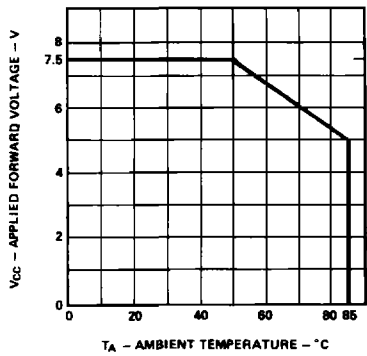

Figure 3. Maximum Allowed Applied Forward Voltage vs. Ambient Temperature $R\theta_{JA} = 175^\circ\text{C}/\text{W}$. 5 Volt Devices.
2. Derate from T_A = 50°C at 0.071 V/°C, see Figure 3.